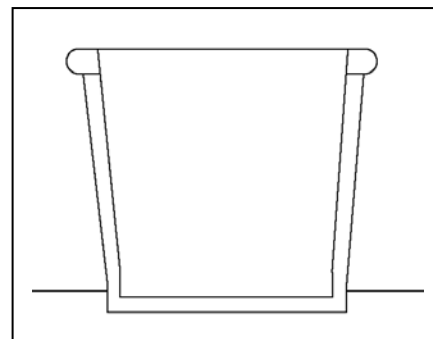

Fig. 4
4. Choose a container for your fountain kit. Fig. 4